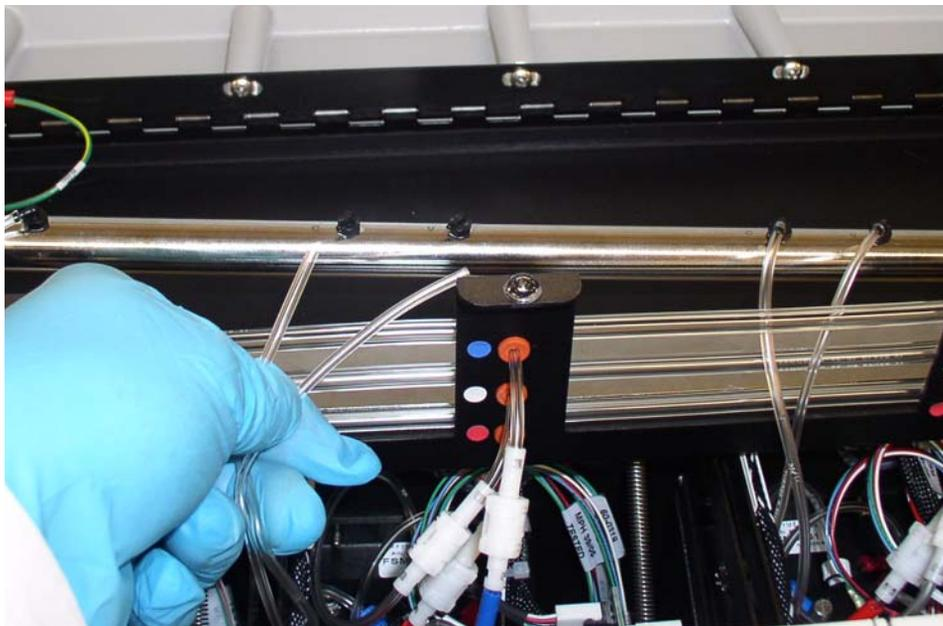
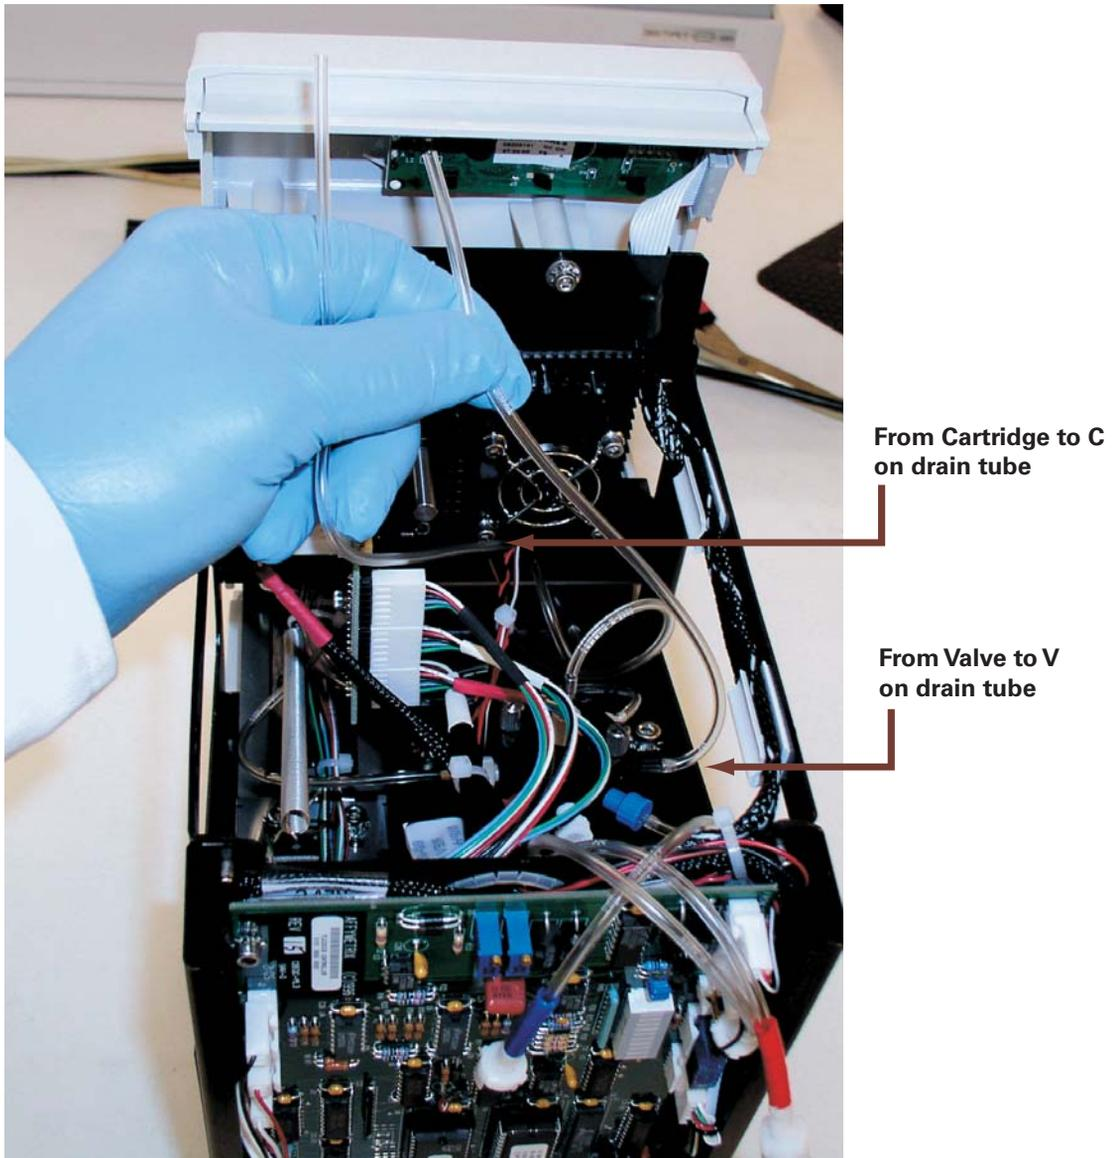
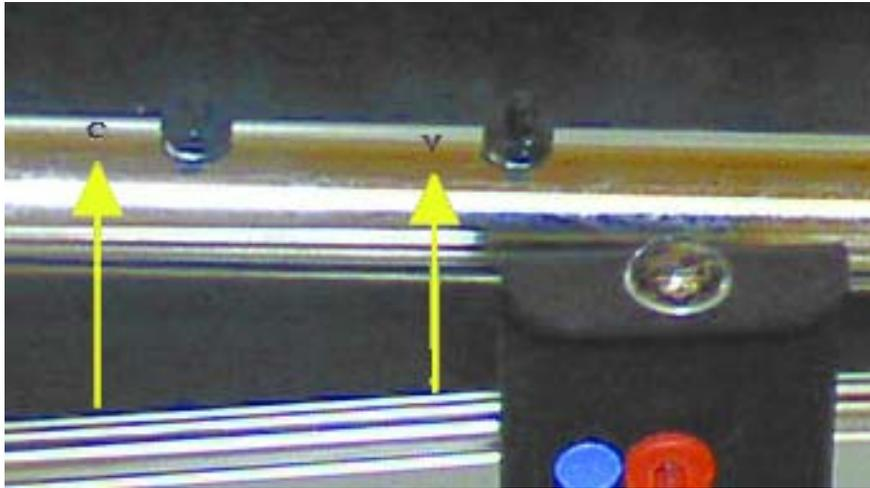

Figure A.8
Figure A.9
Figure A.10
2. Reconnect the clear, waste line tubing to the drain tube. See Figure A.8. Connect the waste line tubing from the cartridge to the drain tube inlet, “C” (marked as C on the drain tube) and connect the waste line tubing from the valve to the drain tube inlet “V” (marked as V on the drain tube). See Figure A.9 and Figure A.10 for waste line tubing identification and inlet locations.